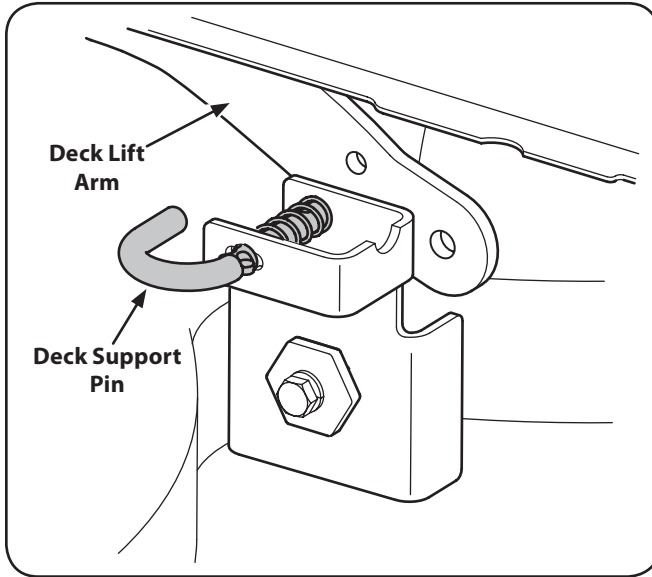

Figure 7-3
6. Pull the deck support pin outward to release the deck from the deck lift arm. See Figure 7-3.
- b. Reconnect the deck lift arms. See Figure 7-3.